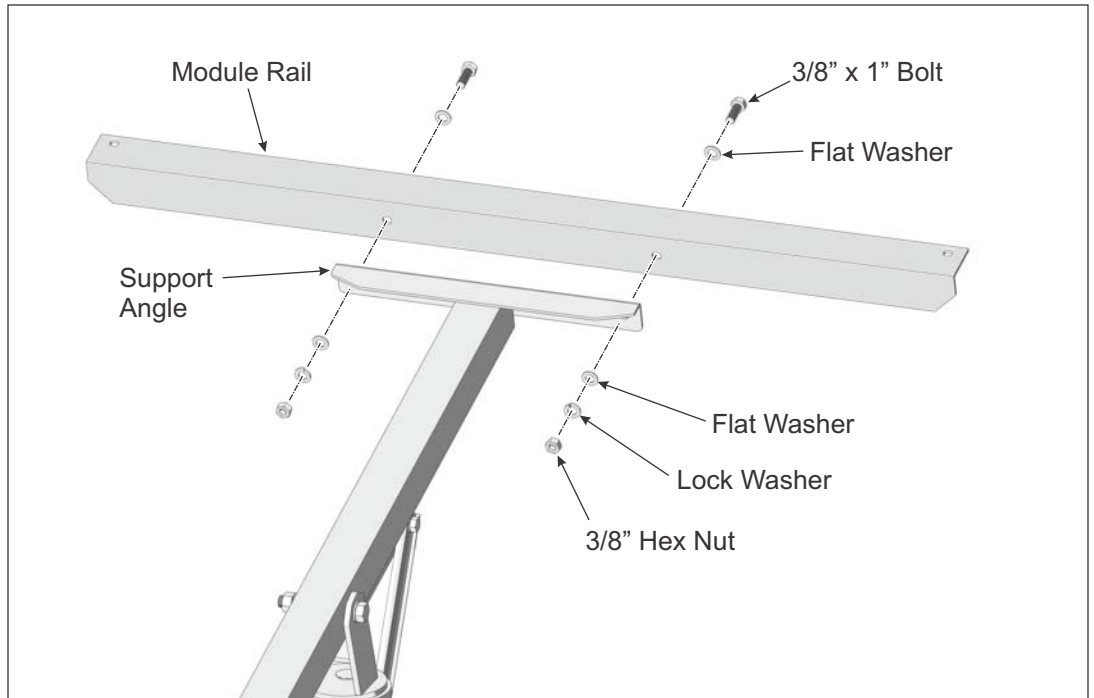

Figure 3-1: Attaching Module Rails
- Align the Module Rail mounting holes with the holes of the Support Angle and secure with 3/8" x 1" bolts and hardware. Finger-tighten for now. (See Figure 3-1)